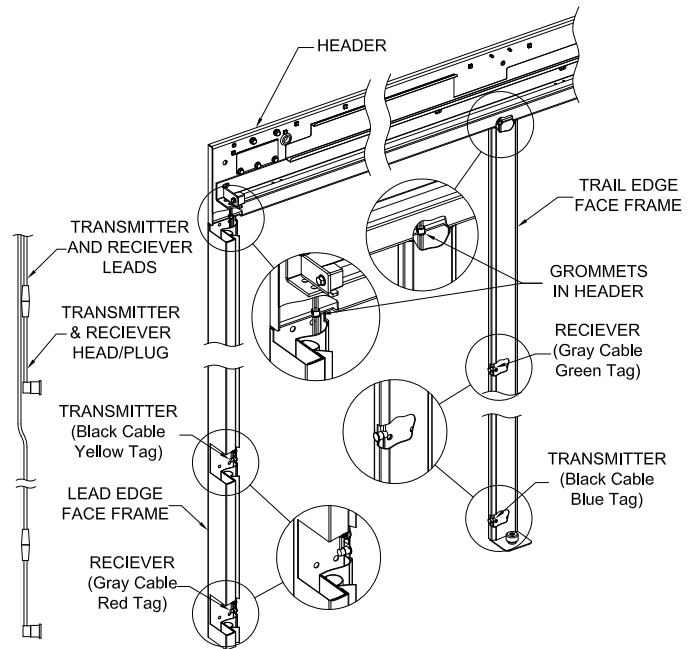
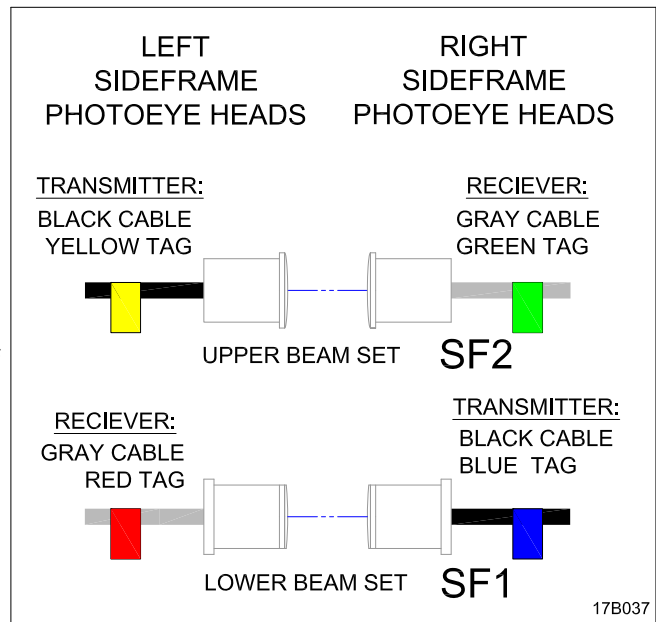

Figure 19: Photoeye Wire Routing
Figure 20: Photoeye Wire Color Codes
2. Locate photoeye cables on back of header and identify each pair of wires by its location near the grommets in the bottom edge of the header (Figure 19). You will be connecting these wires to one emitter and receiver on each side frame. Remove the emitter and receiver heads from each wire for installation into face frames. Route the cables in pairs through the grommets in the header as shown.
- Mount photoeye sensors as shown in Figure 19. Pay attention to colors of photoeye wires (Figure 20).
- Connect the photoeye emitter and receiver leads to the same color wires from the header. The wires are color-coded black or gray. Emitter are gray and receivers are black. Match wire colors and install the photoeyes as shown in Figure 20.